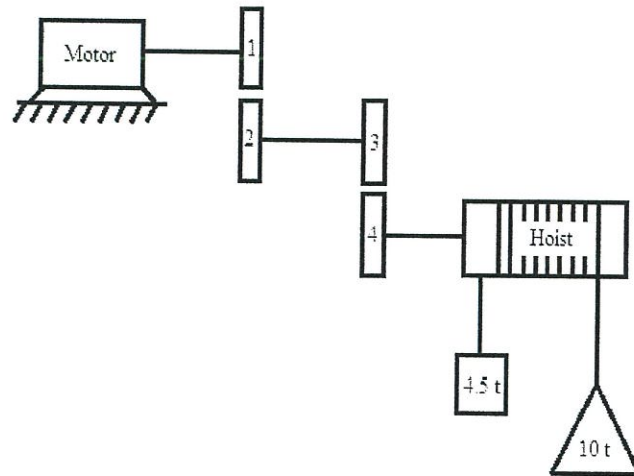

Figure Q1(b)
- Q1** (a) In gear terminology, circular pitch, diametral pitch and module of the gear are important parameters. Explain how those **three (3)** parameters related to each other. (5 Marks)
- (b) A motor used to accelerate a hoist through two sets of gear reducing systems, as shown in **Figure Q1 (b)**. Gear ratio of sets 1 and 2 is 1:3.5, while gear sets 3 and 4 have a 1:4.5 gear ratio. Diameter of the hoist is 1.2 m. The motor shaft has a moment of inertia of 7 kgm^2 , while the middle shaft and hoist shaft have moment of inertia of 30 kgm^2 and 600 kgm^2 , respectively. The gear efficiency of both gear sets is 90%. Neglect the friction effect. The motor needs to bring up the 10 tones load with acceleration 0.5 m/s^2 .